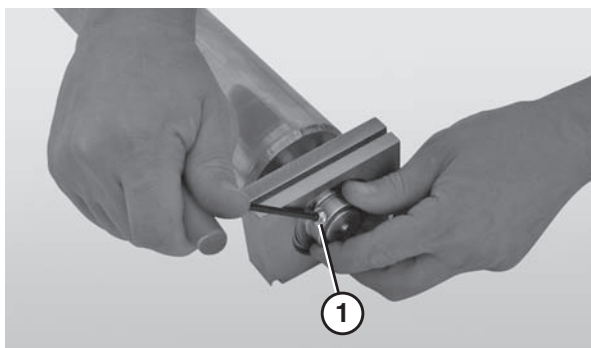

Figure 100
3. Use a 4 mm hex wrench to remove the button head screws that connect the bearing to the spindle (**Figure 100, item 1**).